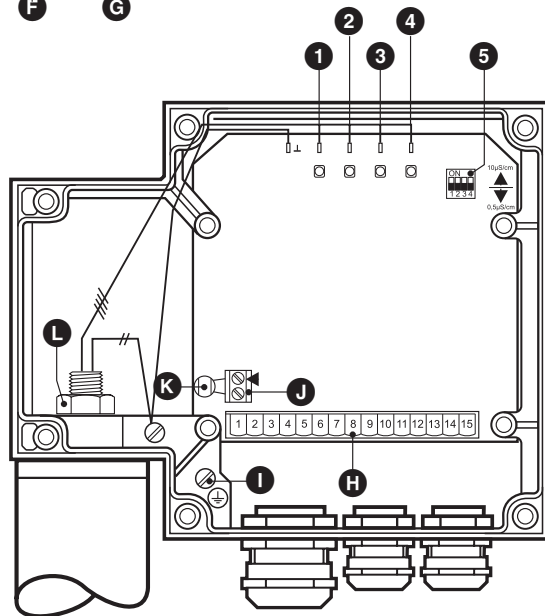

Fig. 6
3. Loosen nut **L** with 17 mm open-end spanner but do not remove! **Fig. 6**